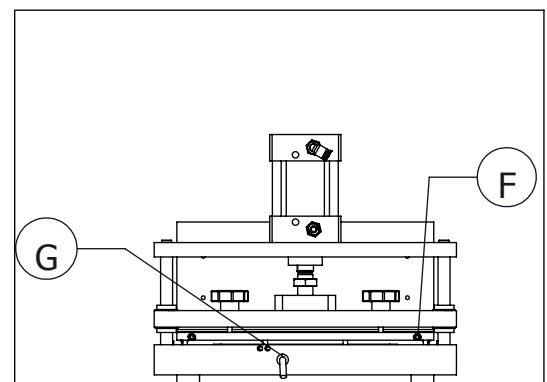

Figure.10
- Control the thermal sensors efficiency. (Figure.10 G)
- Control unions at base of the mould. (Figure.10 G)